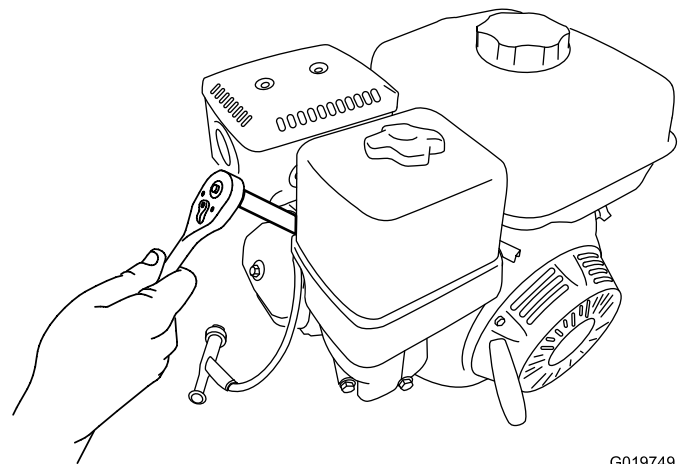

Figure 46
5. Rotate the spark plug counterclockwise using a 21 mm (13/16 inch) spark-plug wrench to remove the plug and the sealing washer (Figure 46).
2. Rotate the spark plug clockwise using a 21 mm (13/16 inch) spark-plug wrench until the plug and sealing washer are seated (Figure 46).